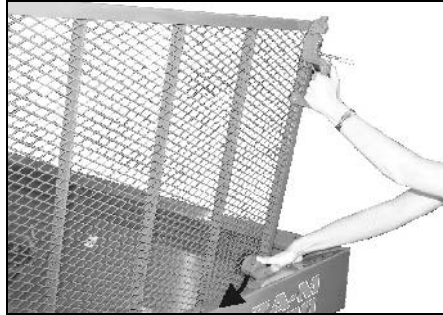

Fig. 8
- Prior to closing the guard screen press down the locking device (Fig. 8).